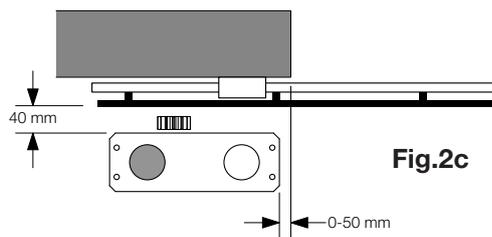

Fig.2c
- Fig. 2c installation with motor on the left